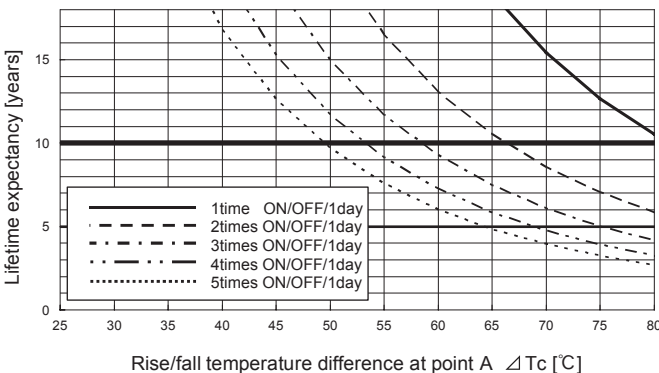
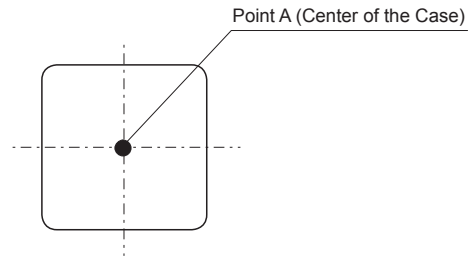

Fig.11.1 Lifetime expectancy against rise/fall temperature difference
Fig.11.2 Temperature measuring point (Top View)
- Product lifetime expectancy depends on case temperature difference ( $\Delta T_c$ ) and number of cycling in a day is shown in Fig.11.1 (It is calculated based on our accelerated process test result.) If case temperature changes frequently by changing output load factor etc., the above the lifetime expectancy design should be applied as well. And point A which is shown in Fig.11.2 must keep below 105°C.
- The warranty period is basically 10 years, however it depends on the lifetime expectancy which is shown in Fig.11.1 if it is less than 10 years.